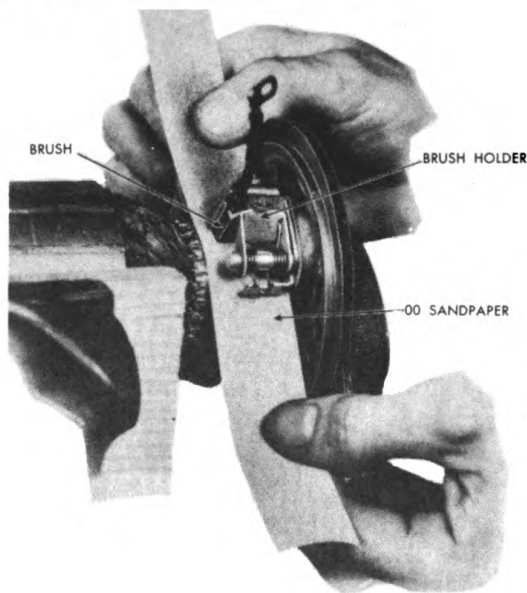

Figure 257. Seating Brush.
1. Inspect the brushes. If they are oil soaked or worn to less than $\frac{3}{8}$ " long, they should be replaced. Make sure the grounded brush terminals are securely fastened and are free from corrosion. To replace the insulated brush, unsolder the lead from the brush connector and pry open the lead in the connector. Insert the new brush lead to its full depth in the lip and clinch tightly before resoldering. A good soldering job must be done to prevent loss of starting efficiency due to a poor contact. Seat a new brush as shown in Figure 257 according to the instructions in paragraph 78, step "E".
6. Assemble the commutator end head on the motor and fastening with the holding screws. Assemble the brushes in their holders. **NOTE:** If brushes have been replaced, they should be sanded according to the instructions in paragraph 78, step "E", as shown in Figure 257.